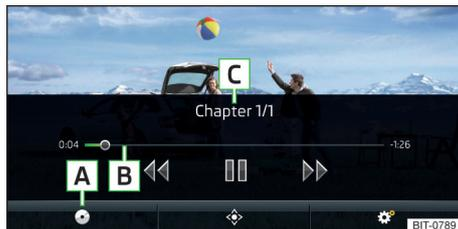

Fig. 174
Main menu » Fig. 174
Forward / rewind the video at the desired time	Tapping the reproduction timeline B » Fig. 174 on page 151
- › To **display** the DVD menu, in the main menu *Video DVD*, tap the function surface ◊ » Fig. 174 on page 151.